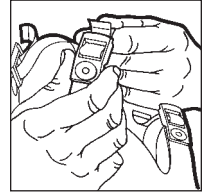

figure 1
1. Adjust the facepiece headstraps so the end tabs are at the buckles. (see fig. 1)